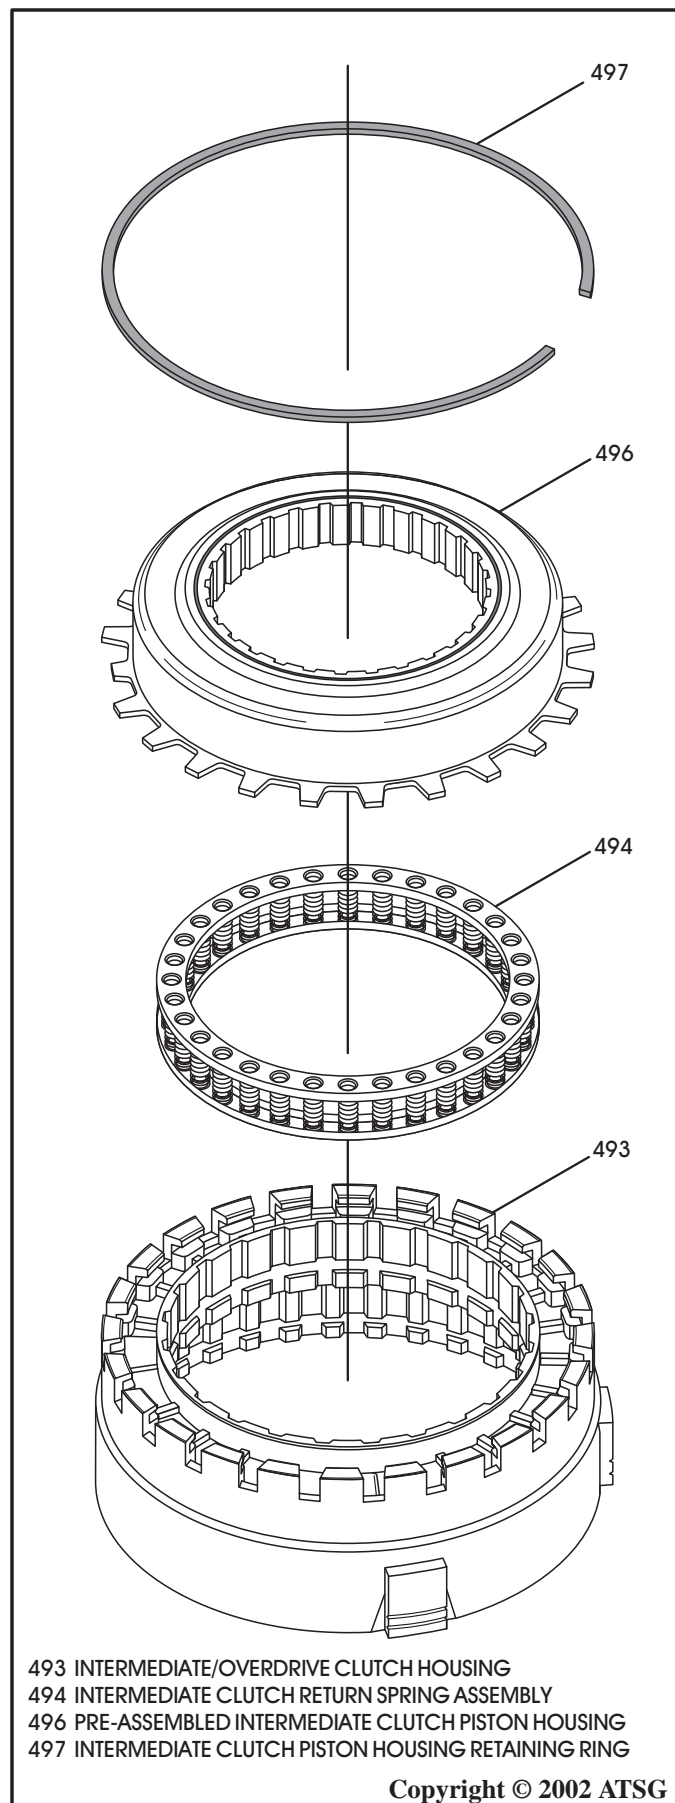

Figure 117
5. Install the intermediate clutch return spring assembly into housing, as shown in Figure 117.
6. Install pre-assembled intermediate clutch piston and housing assembly on top of return spring in direction shown in Figure 117.
7. Compress intermediate housing and the return spring using a foot press, and install snap ring, as shown in Figure 117.